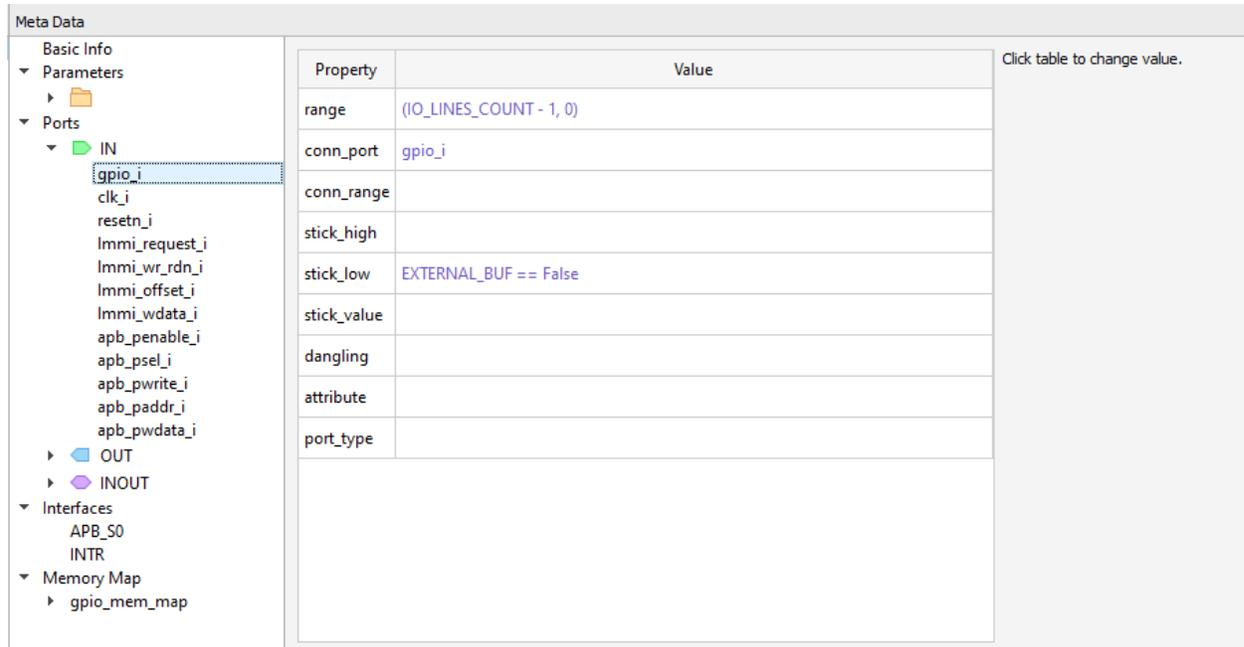

Figure 3.22. Configure an IN Port
- Configure all properties of the IN port as desired (Figure 3.22). Property listed in bold must be configured. The details of each property is shown in Table 3.2.